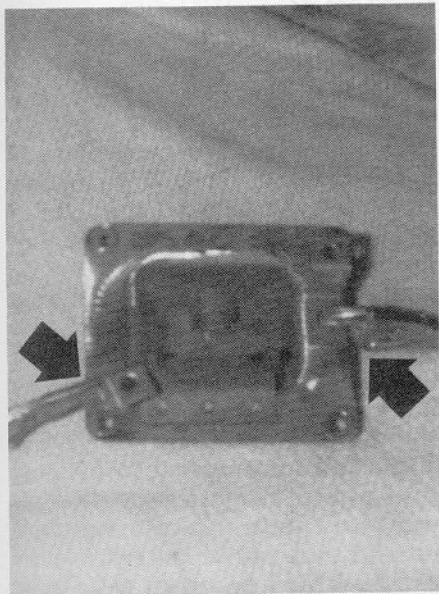

FIGURE 3 — Vise Grips hold parts in place for welding.
7. Locate and clamp parts securely in place. (See Figure 3)